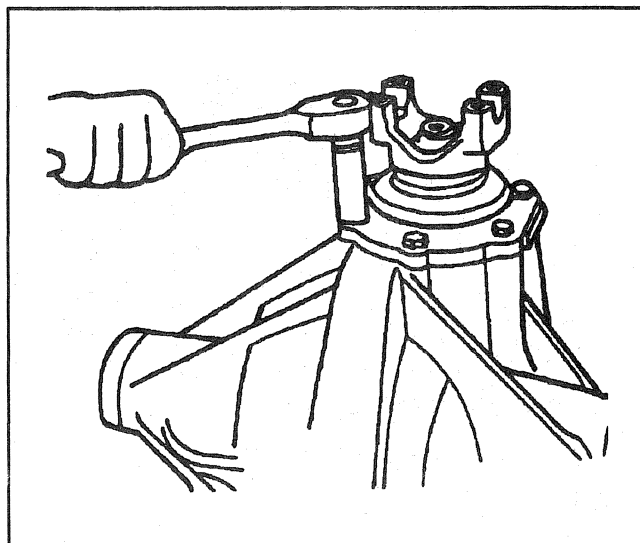

Figure 13—Installing the Pinion Cage
4. Pinion cage to the axle housing (Figure 13).